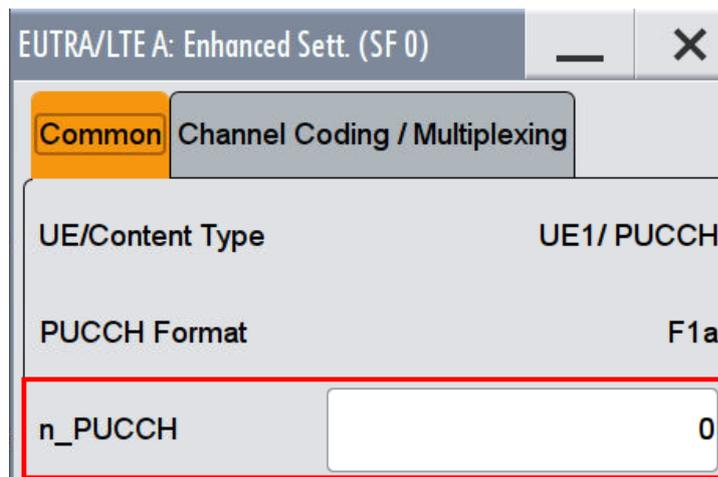
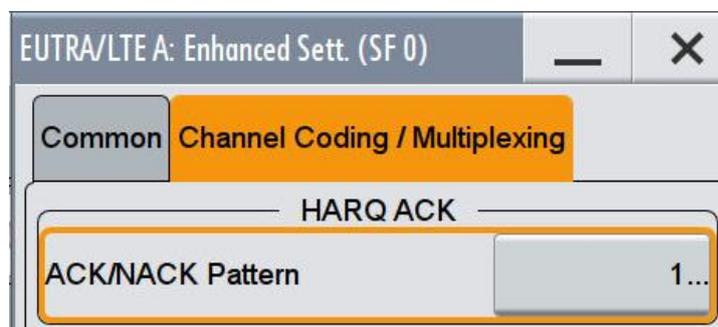

Fig. 3-103: Set the parameter n_PUCCH to 0
Fig. 3-104: Set one bit ACK pattern to '1' (ACK)
8. Set the resource index **n_PUCCH** accordingly (**UE1: 0**). (Fig. 3-103)
9. Set the **ACK/NACK Pattern** (one bit) to '1' (Fig. 3-104)
16. Set the resource index n_{PUCCH} according to Table 3-48 \(UE2...UE4\). (Fig. 3-103) and the **ACK/NACK Pattern** (one bit) to '1' (Fig. 3-104)